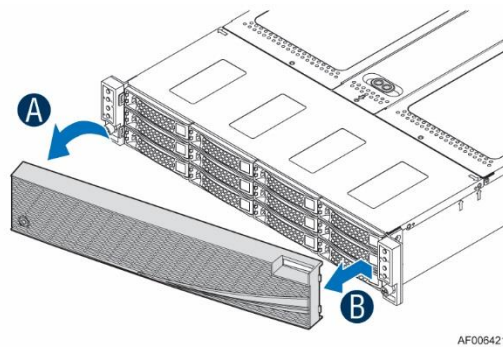

Figure 25. Removing the front bezel
To remove the front bezel, pull out the left side of the bezel from the rack handle (A) and rotate the left side of the bezel away from the chassis to release the latches on the right side from the rack handle (B) as pictured in Figure 25.